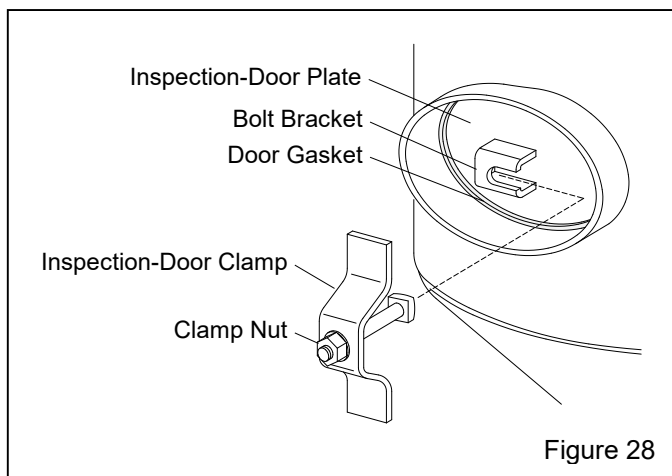

Figure 28
1. Loosen the inspection-door clamp nut enough to slide the clamp bolt from behind the bolt bracket. Then remove the clamp, bolt, and nut, as an assembly, as shown in Figure 28.